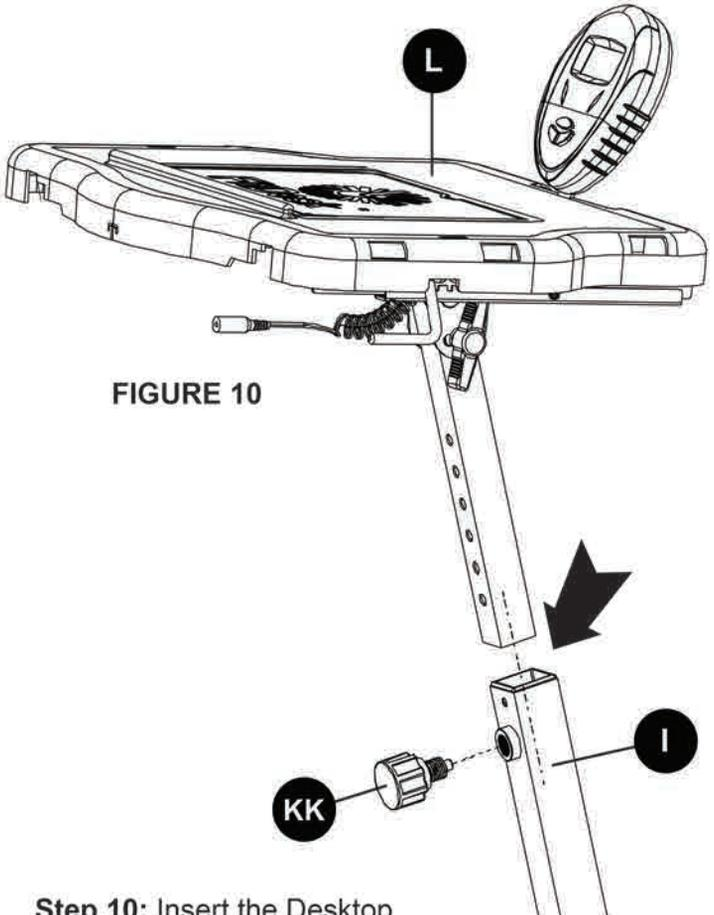

FIGURE 10
Step 10: Insert the Desktop and adjustment bar into the Main Frame (I) as shown. Hand tighten the Knob (KK) at the desired height. **Figure 10**